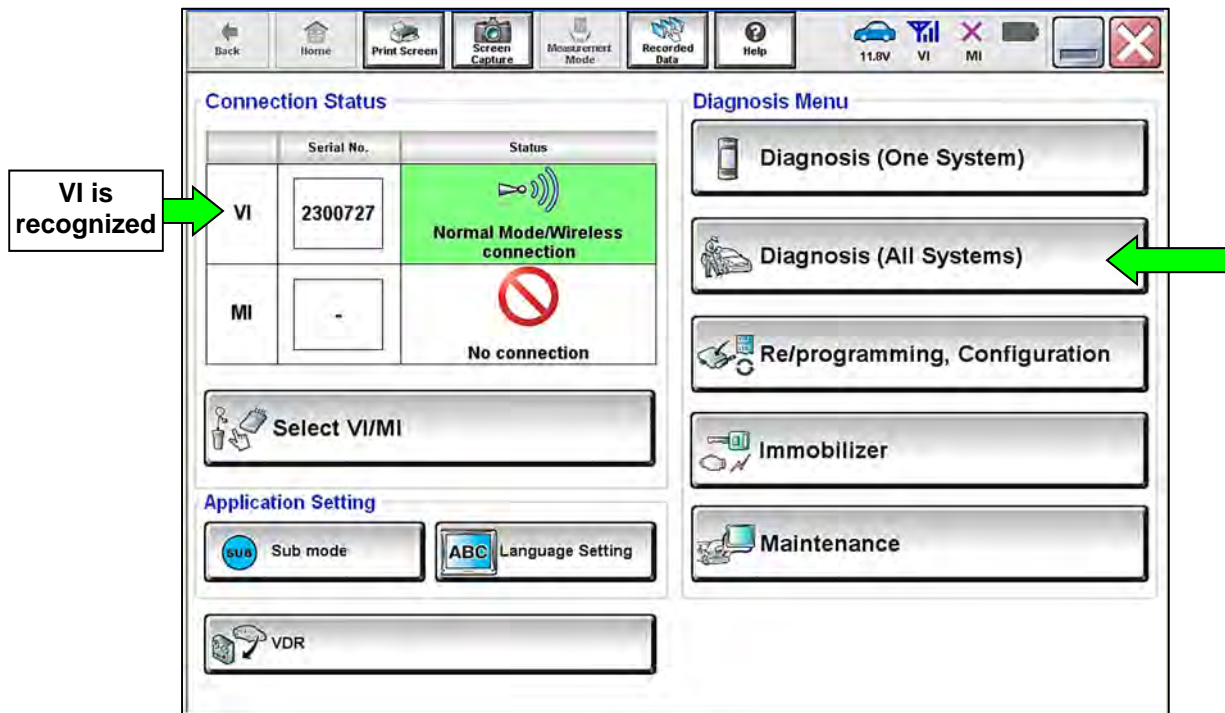

Figure 133
- The serial number will display when the VI is recognized (Figure 133).